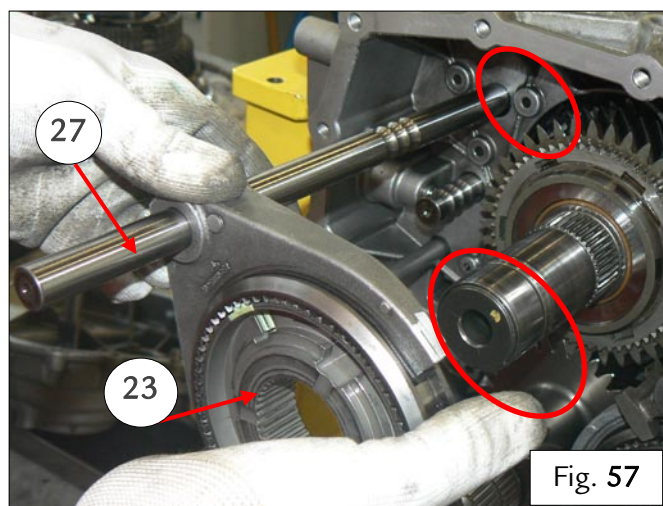

Fig. 57
- Fit the shorter **1st-3rd** speed fork (**27**) onto the relative synchronizer (**23**), then fit the assembly fully into the indicated seats – Fig. 57.